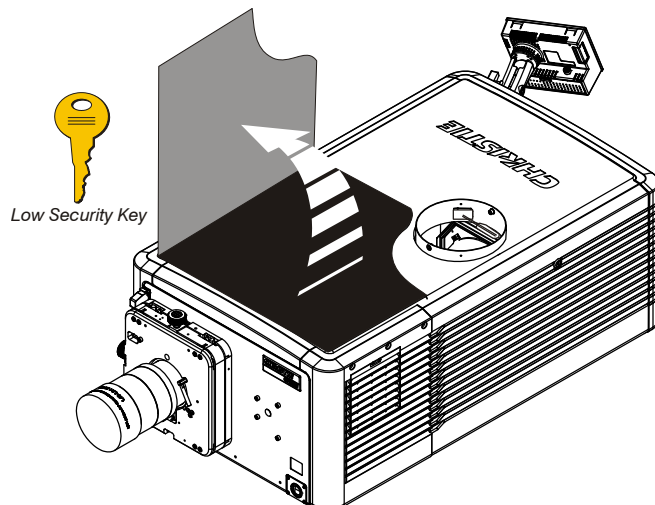

Figure 5-1 Front Top Lid
1. Unlock front top lid using the low security key provided (**Figure 5-1**).